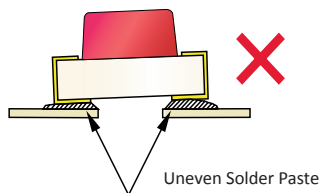

Fig. 7
7. Refer to the appropriate product datasheet for details on specific soldering pay layout. To ensure proper bonding and setting of the LED, solder paste must be evenly applied to each soldering pad. Refer to below diagram (Fig. 7) for example of improper solder application.